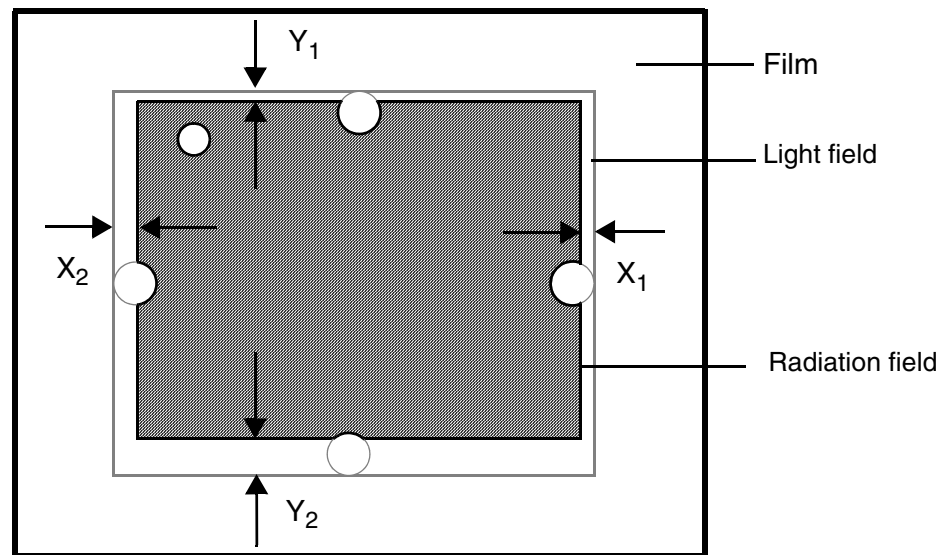

Fig. 4
- Measure the deviations between light field edges and radiation field edges on all four sides (X_1, X_2, Y_1, Y_2) as shown in Fig. 4.